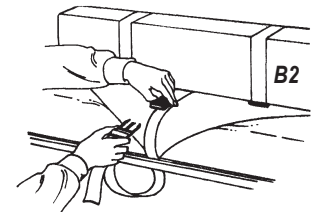

Fig. 2
2. For both bolster systems, thread the outer, two inch quick release buckle strap around the portion of the bed frame that doesn't move when the bed is elevated. Close the strap to form a loop by inserting the male end into the female end, (Fig. 2) press until there is a clicking sound.